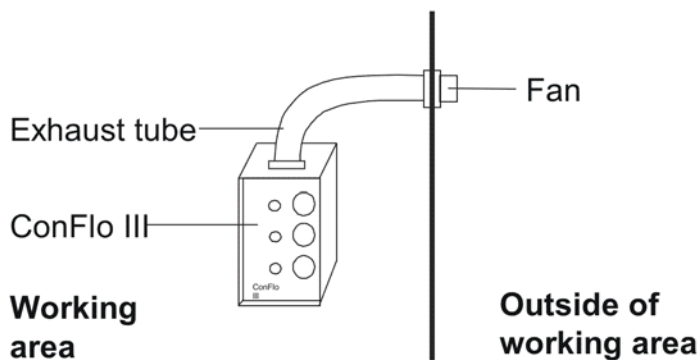

Figure 7-1. ConFlo III Interface with exhaust tube and fan
The exhaust tube should be installed on top of the ConFlo III Interface as shown in Figure 7-1 to remove the toxic sulfur dioxide (SO₂) from inside of ConFlo III out of your working area.
1. Install the exhaust tube on ConFlo III. See Figure 7-1.